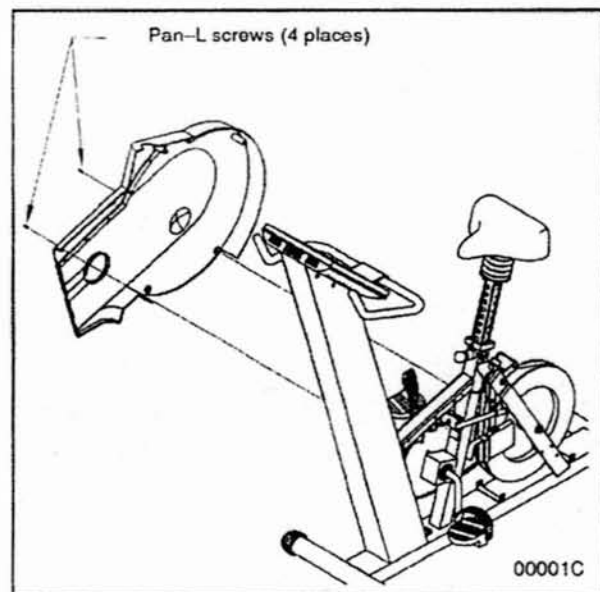

Figure 5.2 Right Side Enclosure.
6. Remove the four 9/16" Pan-L screws securing the right side enclosure. Remove the right side enclosure. See Figure 5.2.
2. Lift the right side enclosure into position. Loosely reinstall the four 9/16" Pan-L screws used to secure the right side enclosure. Push the enclosure, ensuring that the gasket seals against the main tube. Snug tighten front enclosure screws. Snug tighten other screws. See Figure 5.2.